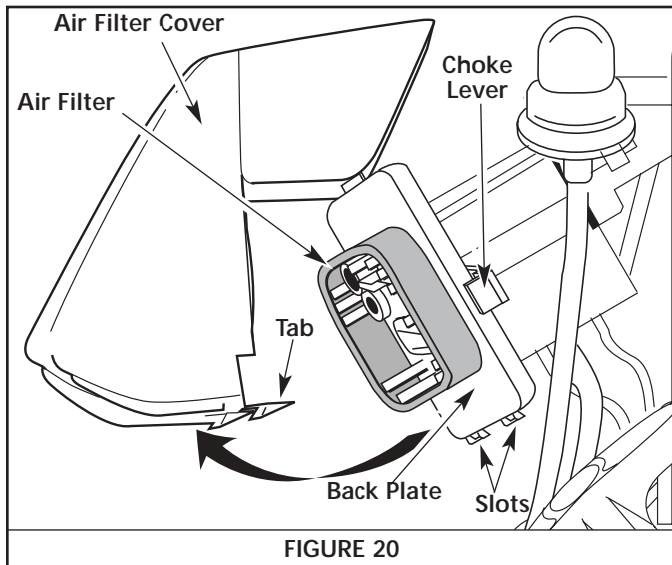

FIGURE 20
1. Remove the air filter cover by pulling up the two tabs on the bottom back of the cover, then pull out and up. See Figure 20.